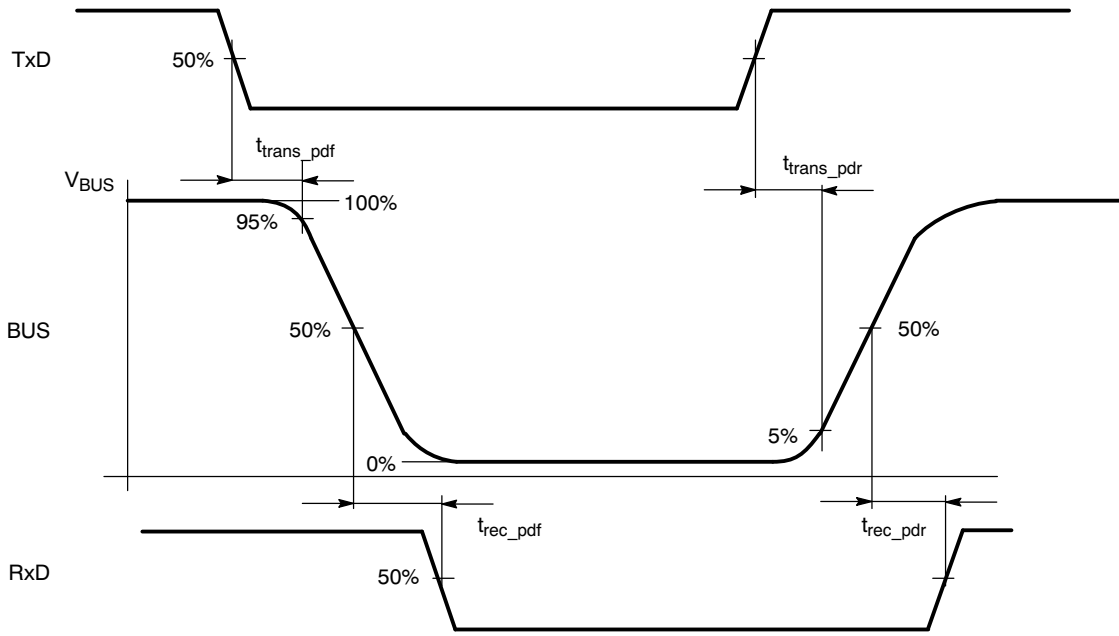

Figure 2. Input/Output Timing
9. See Figure 2 – Input/Output Timing.